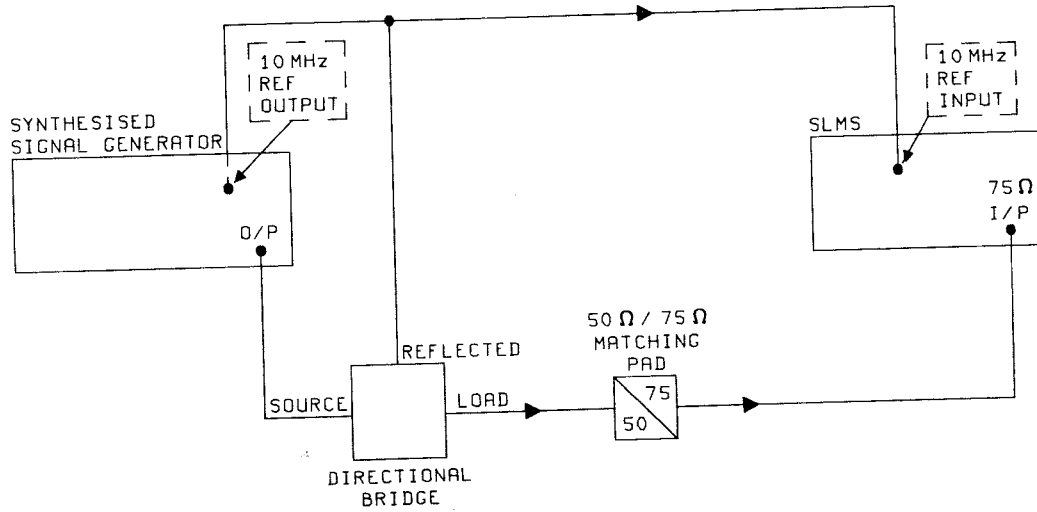

Figure 4-7 Intermodulation Test Setup
2. Connect the equipment as shown in Figure 4-7. Initialise the SLMS using the Preliminary Procedure outlined in Paragraph 4-22 steps 1 through 7.